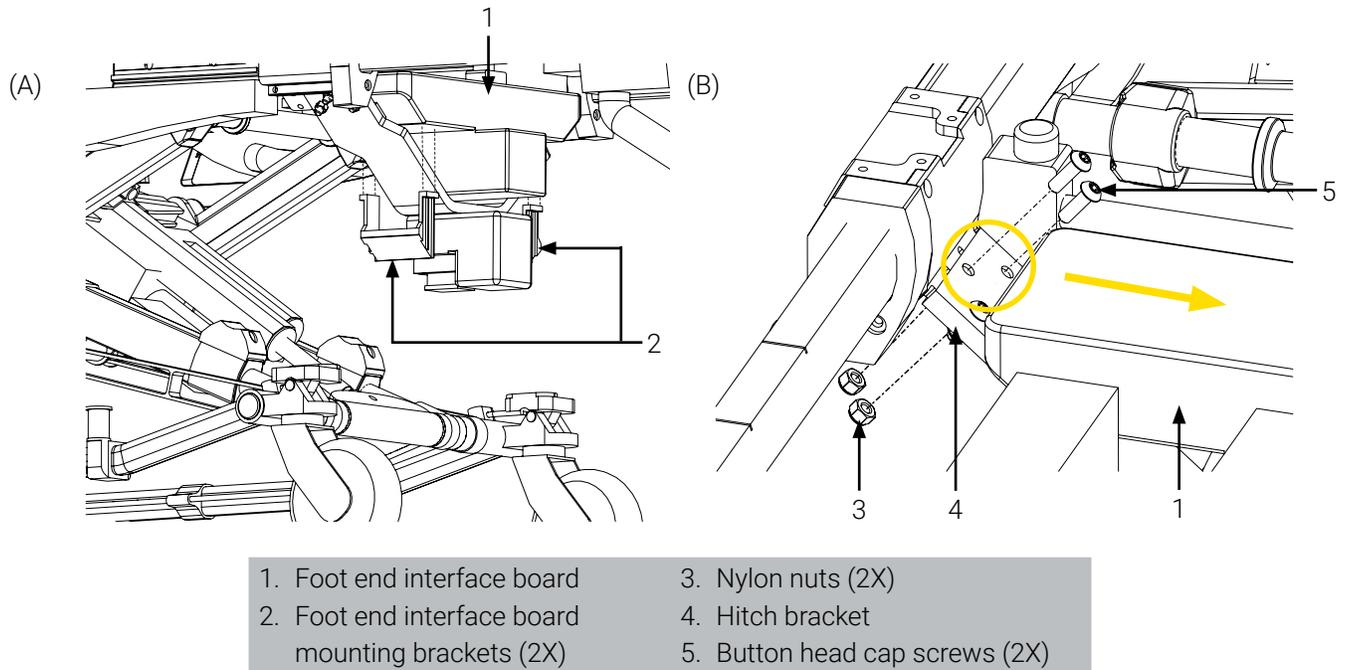

Figure 6: Foot end interface board preparation
8. Locate the foot end interface board at the patient foot end (Figure 6 A).
9. Remove the 2 foot end interface board mounting brackets to loosen the foot end interface board (8 screws; Figure 6 A). Set aside the hardware for a later step.
10. Move the previously loosened foot end interface board towards patient left on the hitch bracket, enough to access the 3 screws on the hitch bracket (Figure 6 B).
11. Remove the 2 screws and 2 nuts that are closest to the patient head end (Figure 6 B). Set aside the 2 nuts as they will be re-used in a later step. The 2 screws will not be reused for this specific installation.
3. Recenter the foot end interface board on the hitch bracket (Figure 6).
4. Reinstall the 2 foot end interface board mounting brackets (8 screws; Figure 6). A torque of 1.06 - 1.44 ft-lb is recommended.